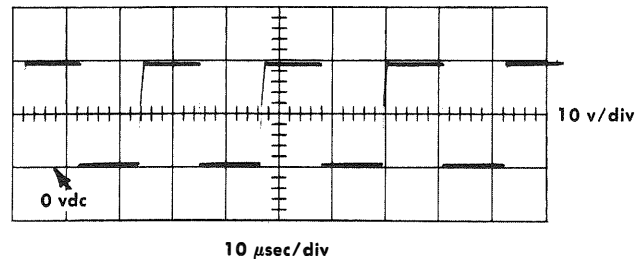

Fig. 6-1. Signal at collector of Q2245 or Q2255.
11. With test oscilloscope, check for trigger spikes at test point (13).	Dual-Trace Blocking Oscillator is not functioning; check Q2230.
12. With the test oscilloscope, check for a square wave signal at test point (16), amplitude typically 2 volts, 20 μ s per cycle. See Fig. 6-1 page 6-5.	Trouble is in the Dual-Trace Switching Multivibrator (Q2255-Q2245). Check the voltages in the multivibrator circuit. When checking the voltages, set the Vertical Mode switch to the positions indicated on the table following. If the voltages are not proper, diode D2244, D2254, D2238 or D2239 may be defective.
3. With the test oscilloscope, display the signals at the collectors or Q2245 and Q2255. The signals should resemble the waveform shown in Fig. 6-1. Vary the RECOVERY TIME control of the sampling sweep, repetition rate of the displayed waveforms should vary. Return both NORM.-INV. switches of the Type S-311 to INV.